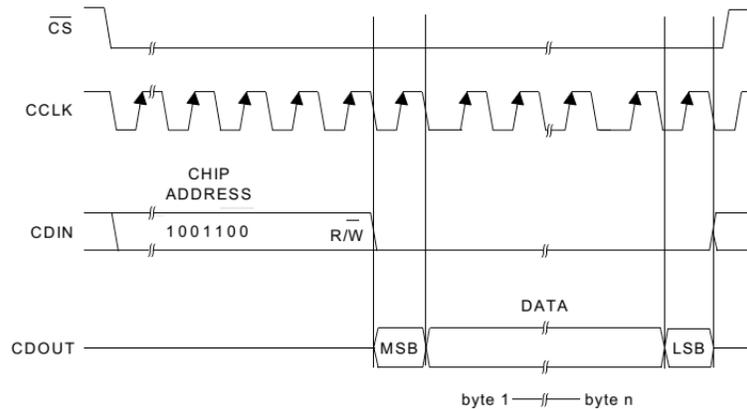

Figure 18. Control Port Timing, SPI Format (Read)
**Figure 18** shows the operation of the Control Port in SPI format. To read to a register, bring  $\overline{CS}$  low. The first seven bits on CDIN form the chip address and must be 1001100. The eighth bit is a read/write control ( $R/\overline{W}$ ), which must be high to read. The CDOUT line will then output the data from the register designated by the MAP. To read multiple registers, keep  $\overline{CS}$  low and continue providing clocks on CCLK. End the read transaction by setting  $\overline{CS}$  high. The CDOUT line will go to a high-impedance state once  $\overline{CS}$  goes high.